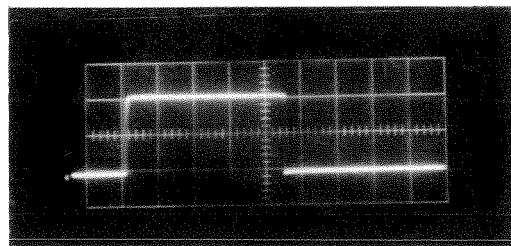

Figure TWA-17. 960-Cycle Pulse Output at TP6 (1v/div; 20 usec/div)
2. Adjust WIDTH 960 screwdriver control to obtain a 960-cycle pulse width of 90 to 95 microseconds (figure TWA-17).